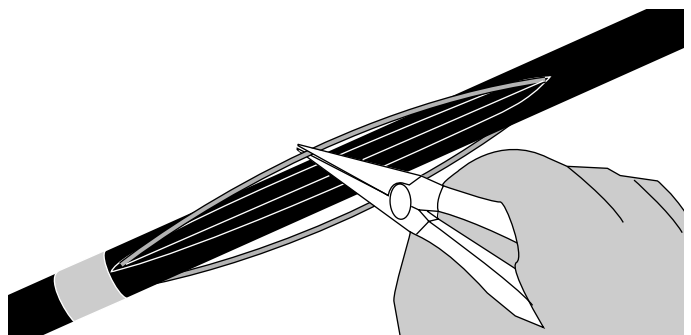

Figure 26
7.6 Using needle nose pliers, bend the embedded steel rods away from the cable sheath (Figure 26).